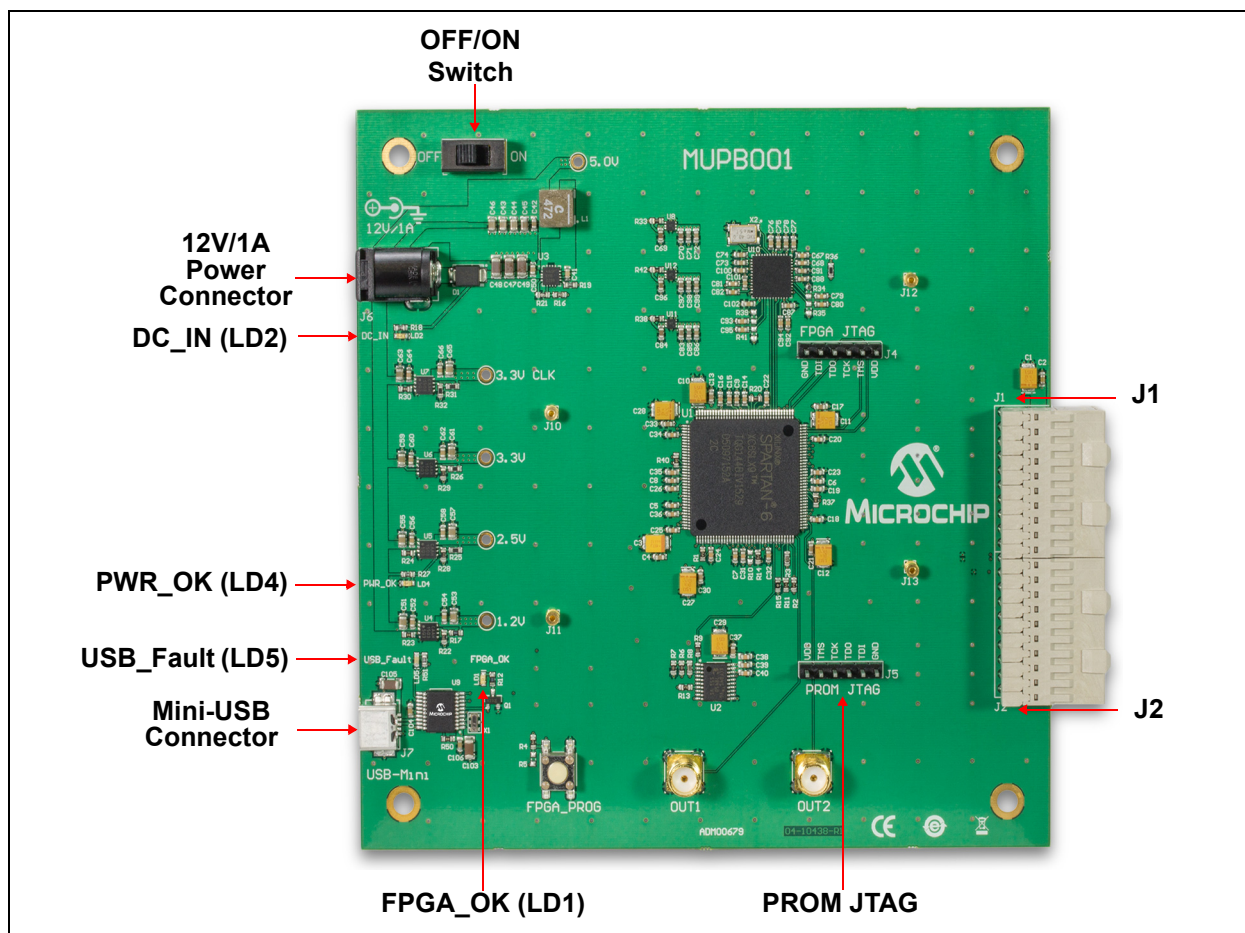

FIGURE 2-2: Microchip Ultrasound Platform Board (MUPB001).
2. With FPGA code configured and the GUI installed, connect the USB cable between the MUPB001 and the PC. Connect J5 and J23 of the HV7321 Ultrasound TX Pulser Evaluation Board (see Figure 2-1) to J1 and J2 of the MUPB001 (see Figure 2-2).
Make sure that the FPGA_OK LED of the MUPB001 is ON. This is an indication that the FPGA code is configured (see Figure 2-2).